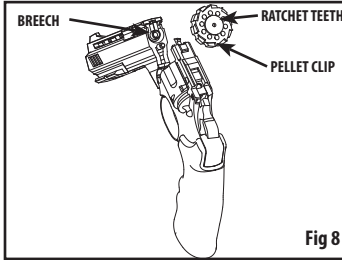

Fig 8
- Place the pellet clip on the barrel (ratchet teeth facing you). (Fig. 8)
- Replace the empty clip (ratchet teeth side facing you) on the barrel. (See Fig. 8)